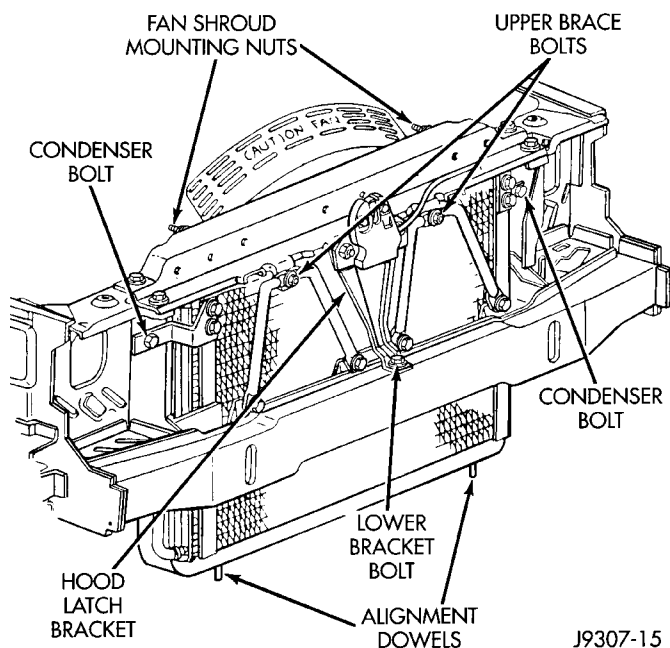

Fig. 67 Fan Shroud Mounting Nuts
(2) Remove the two fan shroud-to-upper radiator crossmember mounting nuts (Fig. 67).
(3) Remove fan, viscous fan drive and fan shroud as an assembly from the vehicle.
(4) Remove the four fan blade-to-viscous fan drive mounting bolts. Remove viscous fan drive from fan blades.
(4) Do not unbolt fan blade assembly from viscous fan drive at this time.
(5) Remove two fan shroud-to-upper crossmember nuts (Fig. 67).
(6) Remove fan shroud and fan blade/viscous fan drive assembly as a complete unit from vehicle.
(7) After removing fan blade/viscous fan drive assembly, **do not** place viscous fan drive in horizontal position. If stored horizontally, silicone fluid in the viscous fan drive could drain into its bearing assembly and contaminate lubricant.